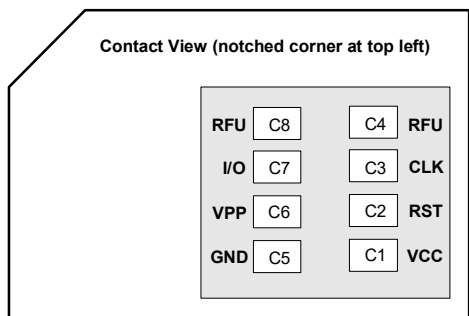

Figure 2-6: SIM Card Contacts (Contact View)
a. See Figure 2-6 on page 29 for SIM card contacts.